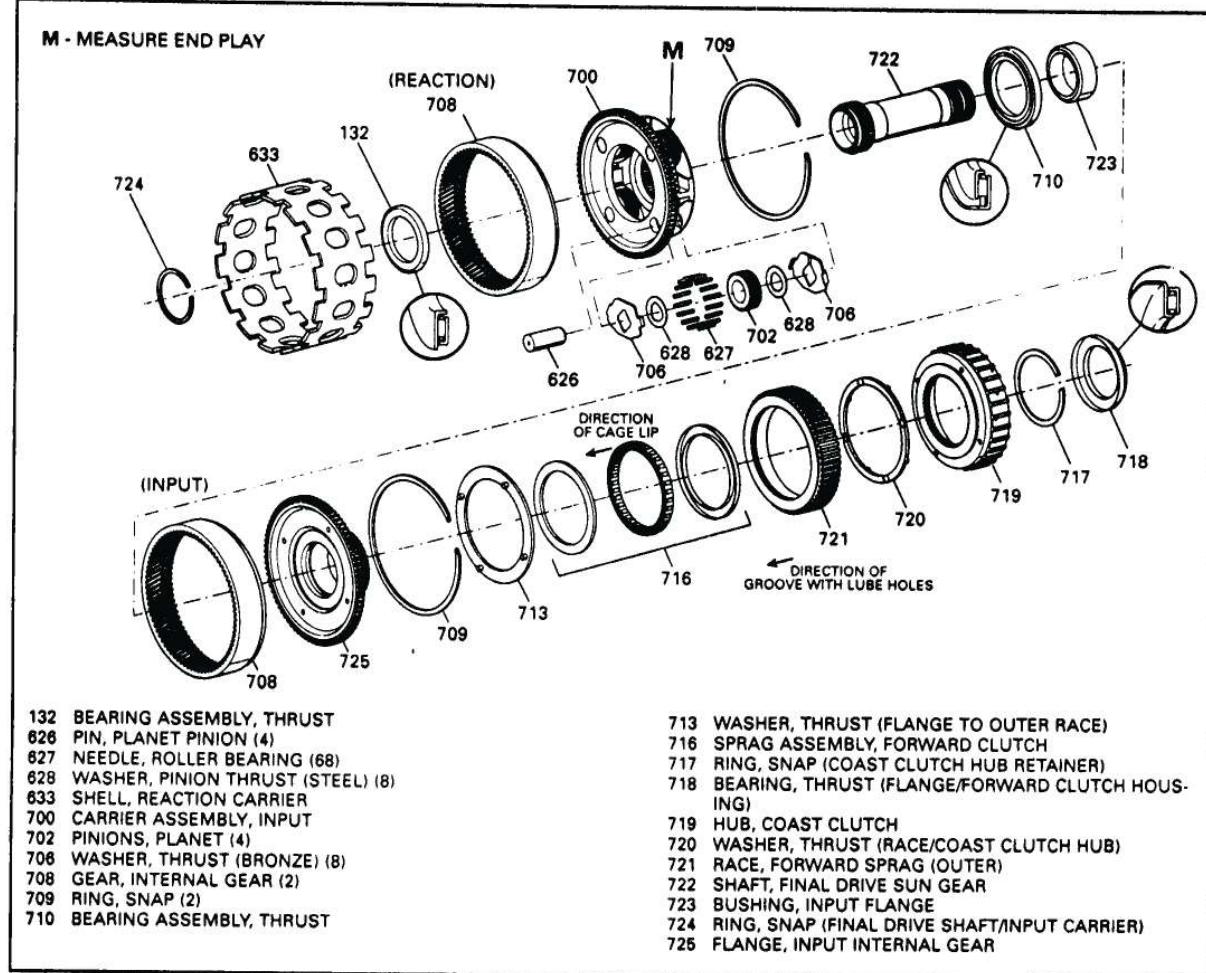

Figure 71
9. Disassemble all components as shown in Figures 71, 73, and 75.
10. Clean thoroughly and blow dry with compressed air all components shown in Figures 71, 73, and 75.
11. Inspect all components shown in Figure 71, 73, and 75.
7. Install thrust washer (720) onto coast clutch hub (719) and retain W/TransJel. (See Figure 71).
9. Install snap ring (717) to retain the coast clutch hub (See Figure 71).
10. Install thrust bearing (718) onto the coast clutch hub with the lip facing down, as shown in inset in Figure 71. Retain bearing with TransJel.
1. Install input carrier (700) into the reaction internal gear (708) and then install snap ring (709) as shown in Figure 71.
2. Install thrust bearing (710) onto the input carrier with lip facing down as shown in Inset in Figure 71. Retain with TransJel and set aside for final assembly.
3. Install input internal gear flange(725) to input internal gear (708) and install snap ring (709) as shown in Figure 71.
4. Install thrust washer (713) onto input ring gear flange and retain with TransJel (See Figure 71).
5. Install forward sprag, with lip facing direction shown in Figure 71, and end bearings onto input ring gear flange.
6. Install forward sprag outer race (721) with groove facing direction shown in Figure 71, by rotating counterclockwise into place.